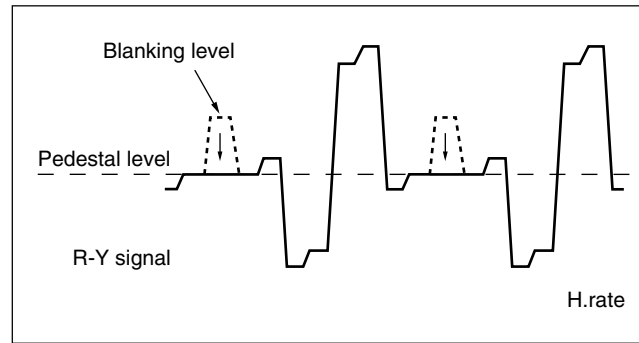

Fig. 3-5-5 DEMOD Fo-3
- Connect an oscilloscope to TP4 round (R-Y), and adjust L5 so that the blanking level of the R-Y waveform is equalize to the pedestal level as shown in Fig. 3-5-5.